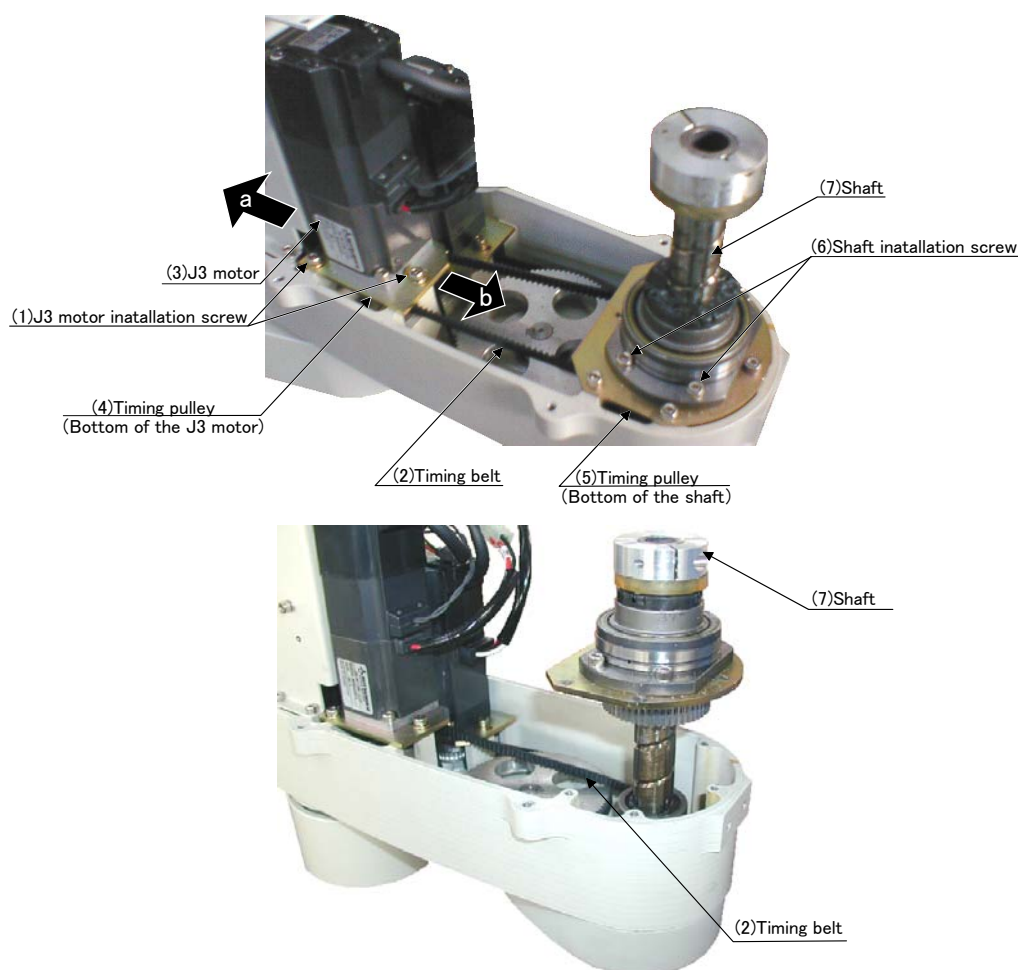
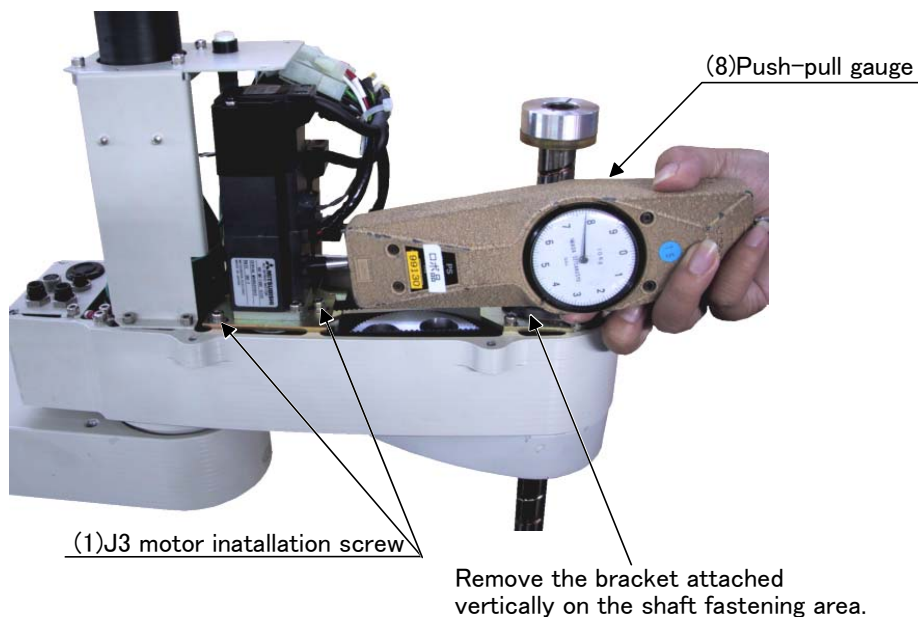

Fig.5-9 : Inspection, maintenance and replacement of J3-axis timing belt
Fig.5-10 : J3 axis timing belt tension
- 5) Confirm that packing is stuck correctly and install the cover. When tightening the bolts fixing the cover, avoid tightening them to a specified torque at a time. Tighten the bolt in the order shown as much as possible in the "Fig. 5-10: Example of order which tighten bolts." The torque which tightens the fixing bolt of each cover is shown in "Table 5-3 : Cover and Packing names".
- 1) Fig. 5-9 shows the methods for inspecting, adjusting and replacing the timing belt.
- 4) Be careful not to let the timing pulley (4) on the J3 axis motor move while the belt is being changed.
- 5) If the pulley (4) and (5) position relation deviates, the position could deviate.
- 6) Loosen the J3 motor installation screws (1) to lift the J3 motor (3) upward and remove the timing belt (2) from the timing pulley (4).
- 7) Loosen the shaft installation screws (6) to lift the shaft upward and remove the timing belt (2) by lifting it from the bottom spline section. (Refer to Fig. 5-9.)
- 8) Install a new timing belt on the timing pulleys (4) and (5) in the reverse order of the procedure described in steps 6) and 7) above.
- 9) With the J3 axis touching the upper mechanical stopper, hook the timing belt (2) around the timing pulleys (4) and (5).
For more accurate tension adjustment, pull out the idler (4) with a force of 65N for RH-6SDH or 90N for RH-12SDH/18SDH/20SDH using the push-pull gauge, and then tighten the idler installation screws (3) as shown in Fig. 5-10. The use of the method as shown in Fig. 5-10 is recommended.